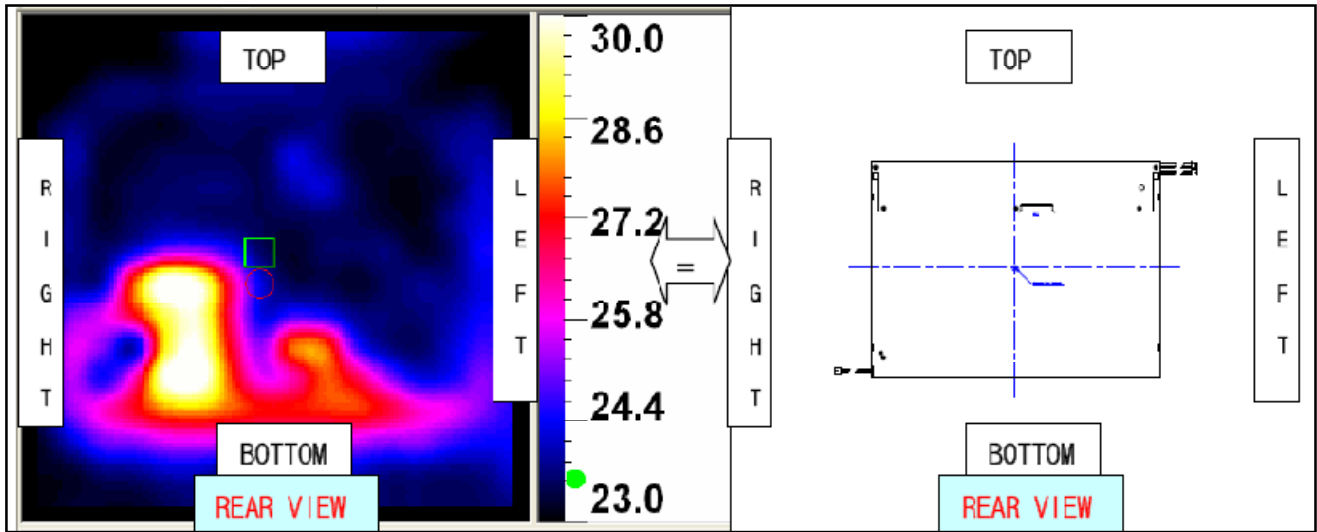

Figure 1. Thermal Map Showing the Heat Imaging of the LVM121XSB-411-L-NVG w/ Day Mode (REAR VIEW)
- (1) The spike noise causes the mis-operation of circuits. It should be lower than following voltage : $V = \pm 200\text{mV}$ (Over and under shoot voltage).
- (2) Response time depends on the temperature. (In lower temperature, it becomes longer.)
- (3) Be careful for condensation at sudden temperature change. Condensation makes damage to polarizer or electrical contacted parts. And after fading condensation, smear or spot will occur.
- (4) When fixed patterns are displayed for a long time, remnant image is likely to occur.
- (5) A module has high frequency circuit. It might be necessary to shield the electromagnetic noise in your integrating system.
- (6) The thermal map showing the heat imaging of the module (LVM121XSB-411-L-NVG) is shown in figure 1. Please reference the thermal map for optimum thermal design to maximize the MTBF of LED life.